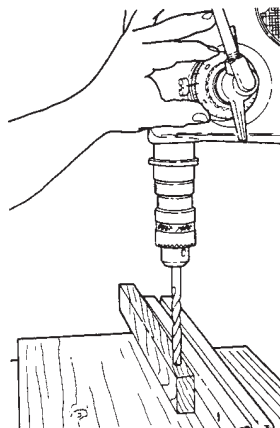

Figure C-26
1. Same as "Drilling Through" except extend the quill until the cutting flutes of the drill bit just touch the stock. Then set and lock the depth control. See Figure C-26.